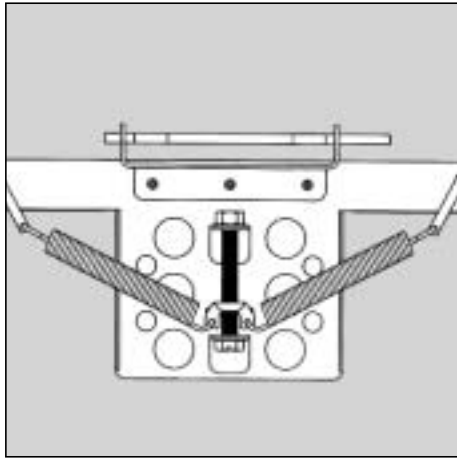

Figure 9. Positioned for high launch
- 1) The bird launcher is shipped with the springs adjusted in the bottom setting. This setting gives you the high launch. Turning clockwise, move the springs down for a high launch (Figure 9). : the very bottom being highest.